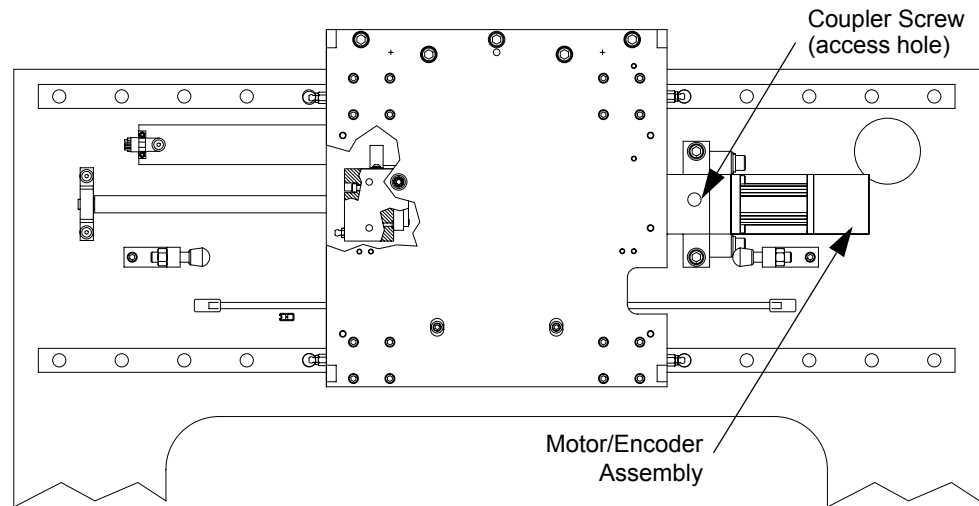

Figure 9-12 X-Axis Motor Assembly
3. Turn the leadscrew stop until the coupler screw is visible through the access hole in the bearing block; see Figure 9-12.